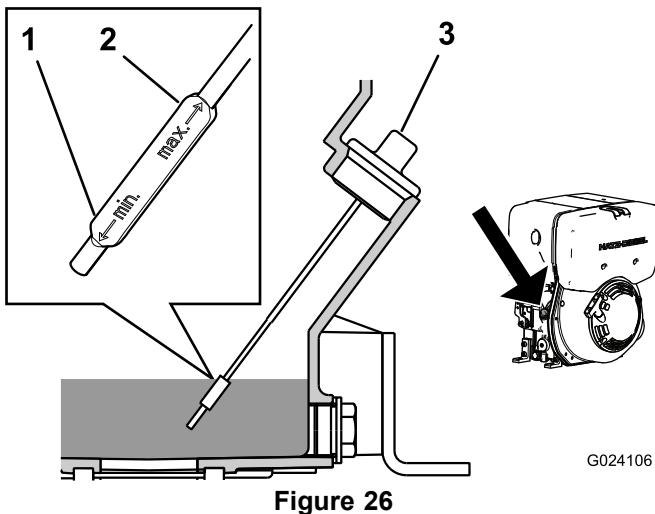

Figure 26
- Clean around the dipstick (Figure 26) so that dirt cannot fall into the filler hole and damage the engine.